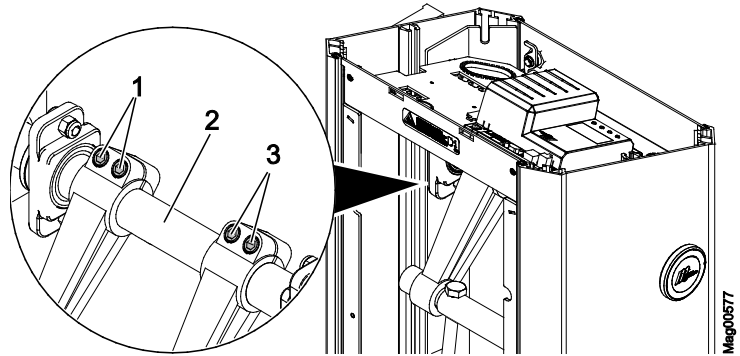

Fig. 32: Access XL2 – Loosen hexagon socket screw
- For Access XL2 see page 75, Fig. 32.